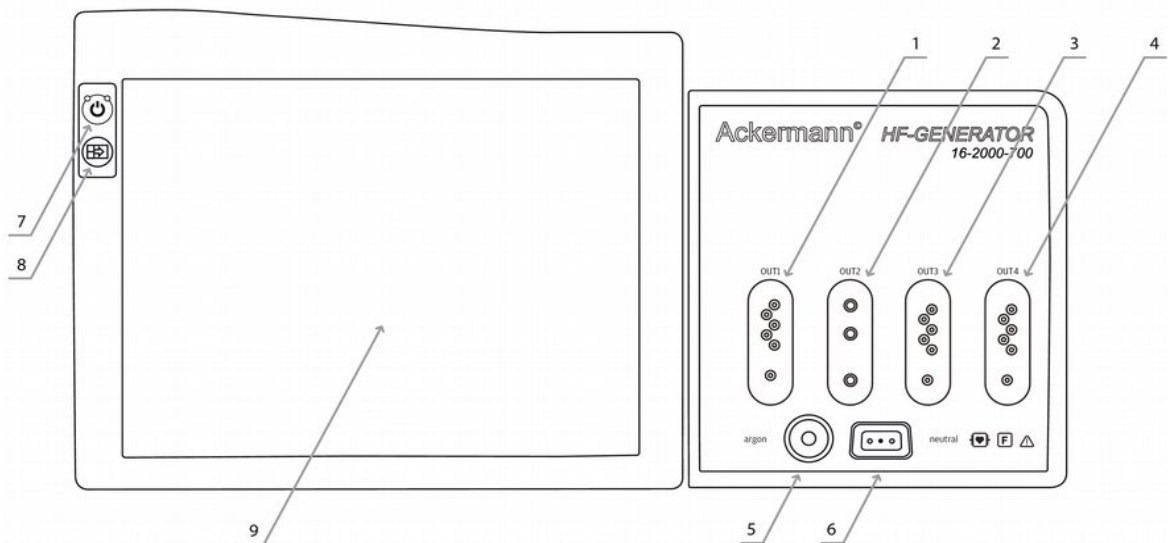
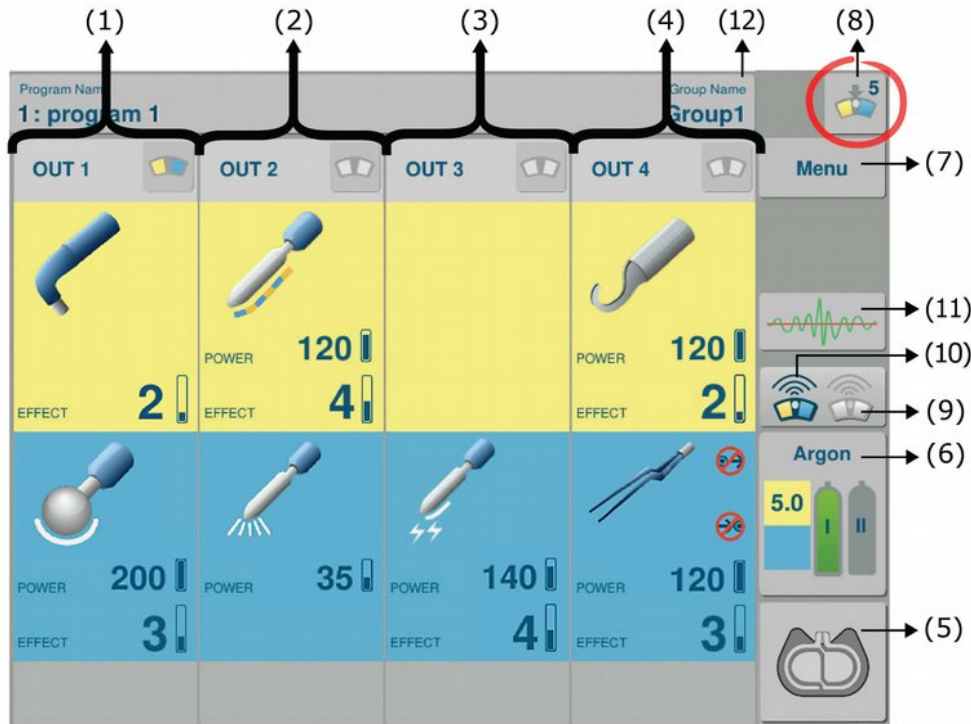

Fig. 1. HF 16-2000-700 frontside view (Version I)
Fig. 5. The main panel.
In the basic configuration (Version I), the HF 16-2000-700 system has three universal ASD outputs with instrument detection (**Fig. 1, items 1, 3 and 4**) and one monopolar output (**item 2**).
The front panel of the HF 16-2000-700 system (Version I) contains the following items (**Fig. 1**):
The system is equipped with four sockets (**Fig. 1 items 1, 2, 3, 4**). Each socket has an assigned control panel (**Fig. 5, items 1, 2, 3, 4**).
#### The main panel in the basic configuration of the HF 16-2000-700 system (Fig. 5):